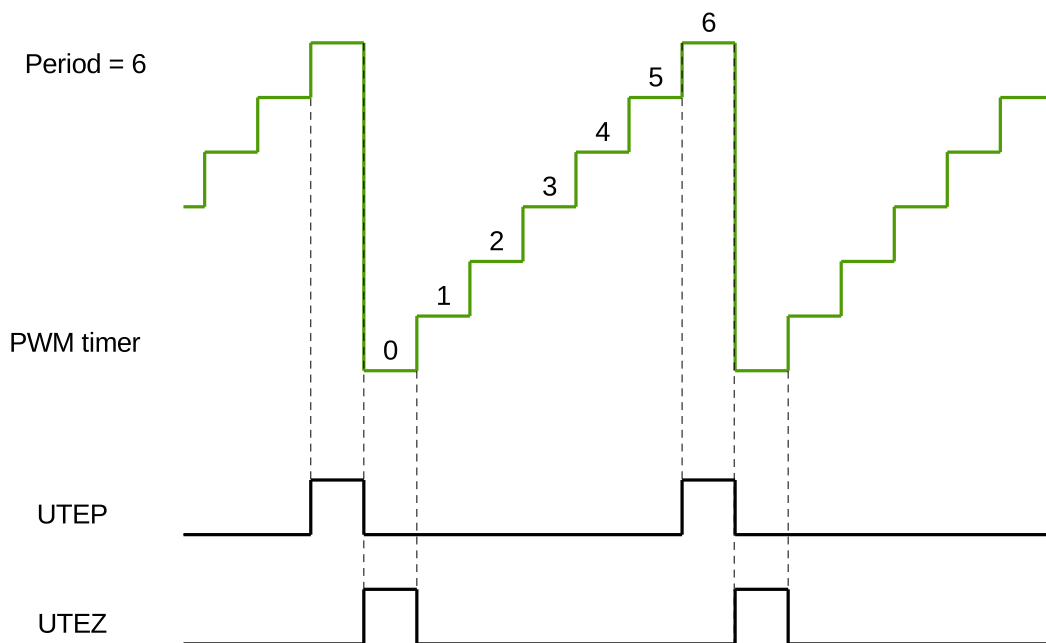

Figure 36.3-10. UTEP and UTEZ Generation in Count-Up Mode
Figures 36.3-10 to 36.3-12 show the timing waveforms of U/DTEP and U/DTEZ.
1. UTEP and UTEZ do not happen simultaneously. When the PWM timer is in count-up mode, UTEP will always happen one cycle earlier than UTEZ, as demonstrated in Figure 36.3-10, so their action on PWM signals will not interrupt each other. When the PWM timer is in count-up-down mode, UTEP will not occur.